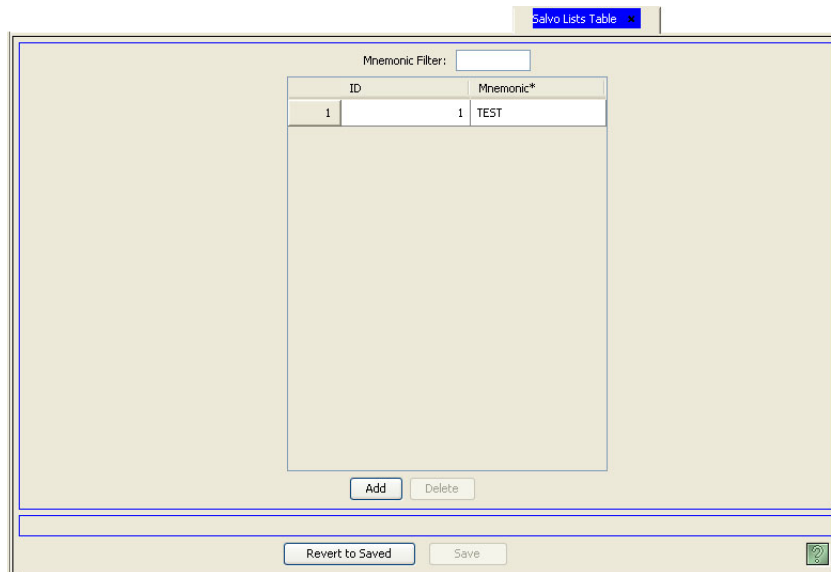

Figure 15-8. Salvo List Table
- 2 From the Navigation area, select the ‘Views’ pane and then ‘Salvo List’. The ‘Salvo Lists’ table appears, as shown in Figure 15-8.